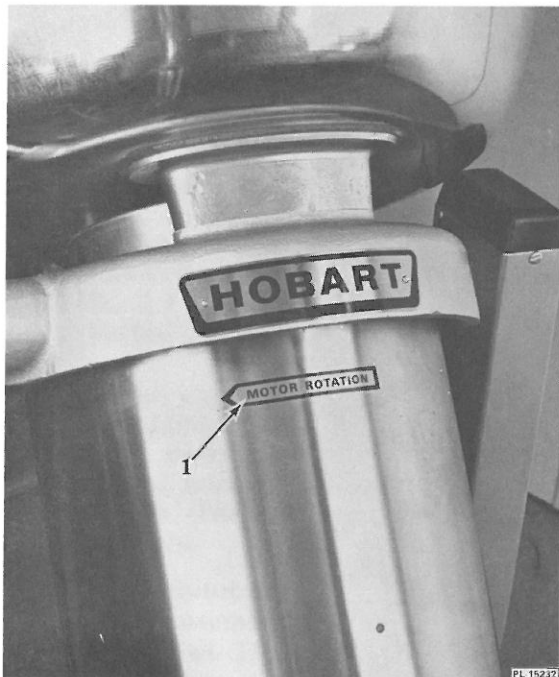
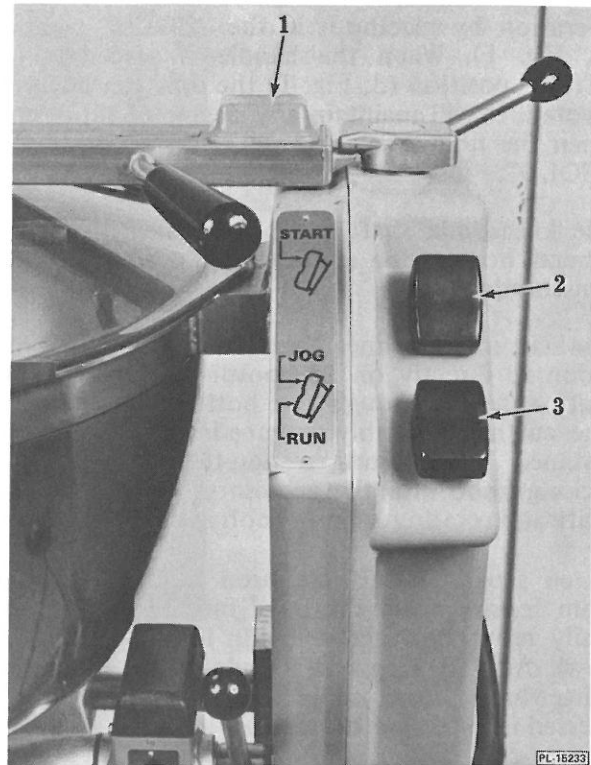

Fig. 3
Fig. 4
Set selector switch (3, Fig. 4) to the "JOG" position. Press "START" switch (2, Fig. 4) and release. The motor will run only when the "START" switch is depressed. Check shaft rotation. Motor shaft should rotate in a clockwise direction as indicated by the arrow (1, Fig. 3). If rotation is incorrect, disassemble plug and reverse any two wires except the ground wires.
To run cutter/mixer continuously, set the selector switch to "RUN" and press the "START" switch. Press "STOP" switch (1, Fig. 4) to discontinue operation.
1. Push the "STOP" switch (1, Fig. 4) and then open cover. This stops the knives and power to the motor is cut off.